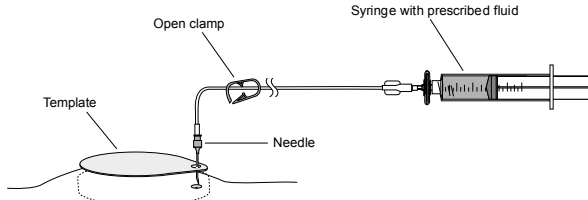

Figure 11. *Open clamp and inject into catheter access port.*
6. Attach the syringe with the prescribed fluid and filter to the extension tubing set (Figure 11).
7. Open the clamp and inject directly at an infusion rate not greater than 5 mL per minute (Figure 11).